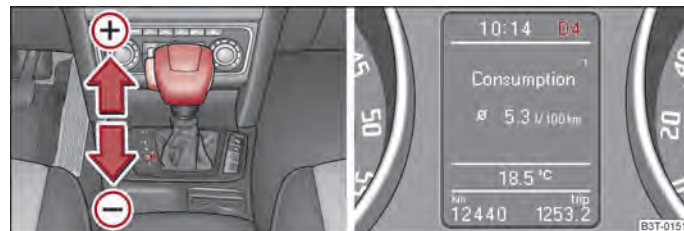

Fig. 128 Selector lever: manual shifting/information display: Manual shifting of gears
The selector lever position you have engaged is indicated in the information display of the instrument cluster together with the engaged gear ⇒ fig. 128 - right. ▶
- One-touch forward of the selector lever (in the Tiptronic position) ⇒ fig. 128 ⊕.